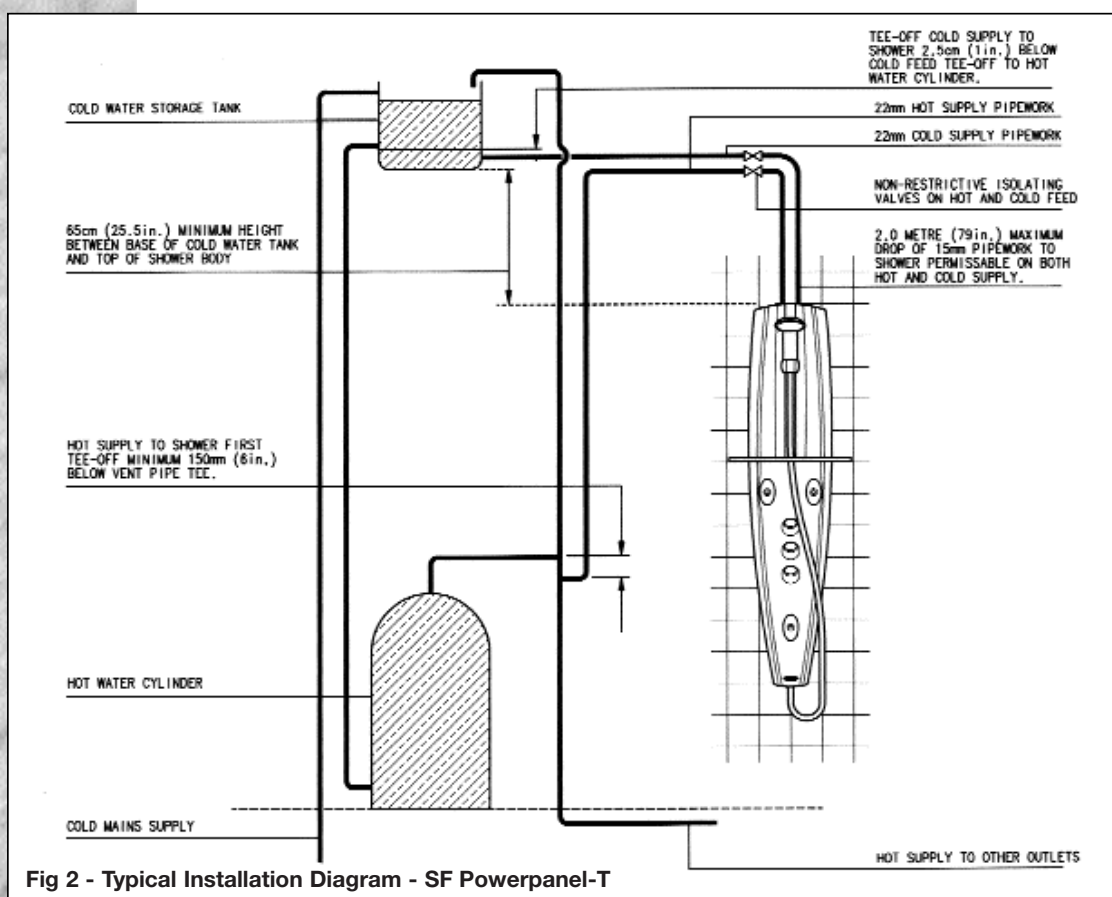

Fig 2 - Typical Installation Diagram - SF Powerpanel-T
- The Powerpanel is suitable for traditional gravity systems with stored hot and cold water. The cold water storage capacity must be a minimum of 115 Litres (25 gallons actual) and the static pressure no greater than 1 Bar - Fig 2.
- The distance between the base of the cold water storage tank and the top of the hot water cylinder must be 1 metre min, 10 metres max - Fig 2.